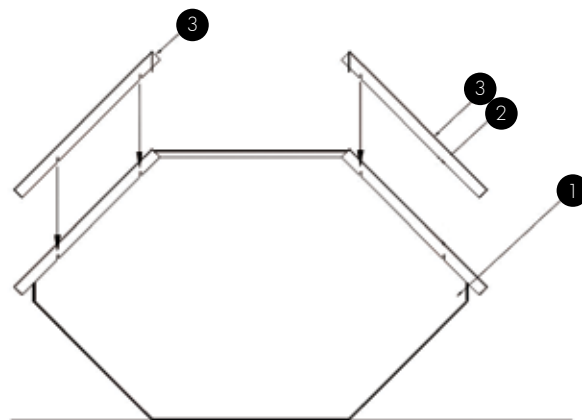

Fig 3
8.2. Installing full-cover stainless steel elements for freestanding corner fridge cabinet (see figure 3)